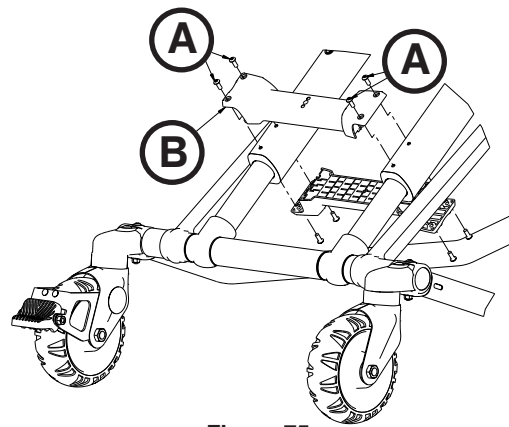

Figure 75
1. Using a T25 Torx driver, remove the four button head cap screws (A) from the base stiffener (B) (Figure 75).